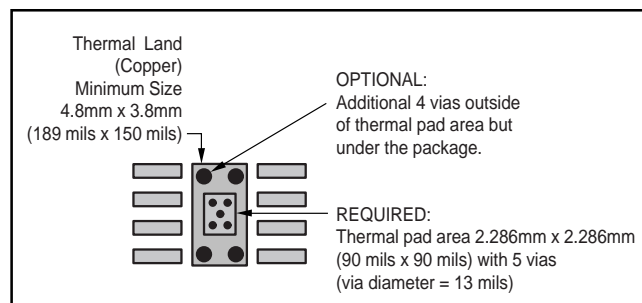

FIGURE 10. 8-Pin PowerPAD PCB Etch and Via Pattern.
2. Prepare the PCB with a top-side etch pattern, as shown in Figure 10. There should be etch for the leads as well as etch for the thermal land.
3. Place the recommended number of plated-through holes (or thermal vias) in the area of the thermal pad. These holes should be 13 mils in diameter. They are kept small so that solder wicking through the holes is not a problem during reflow. The minimum recommended number of holes for the SO-8 PowerPAD package is 5, as shown in Figure 10.
4. It is recommended, but not required, to place a small number of additional holes under the package and outside the thermal pad area. These holes provide additional heat paths between the copper thermal land and the ground plane. They may be larger because they are not in the area to be soldered, so wicking is not a problem. This is illustrated in Figure 10.